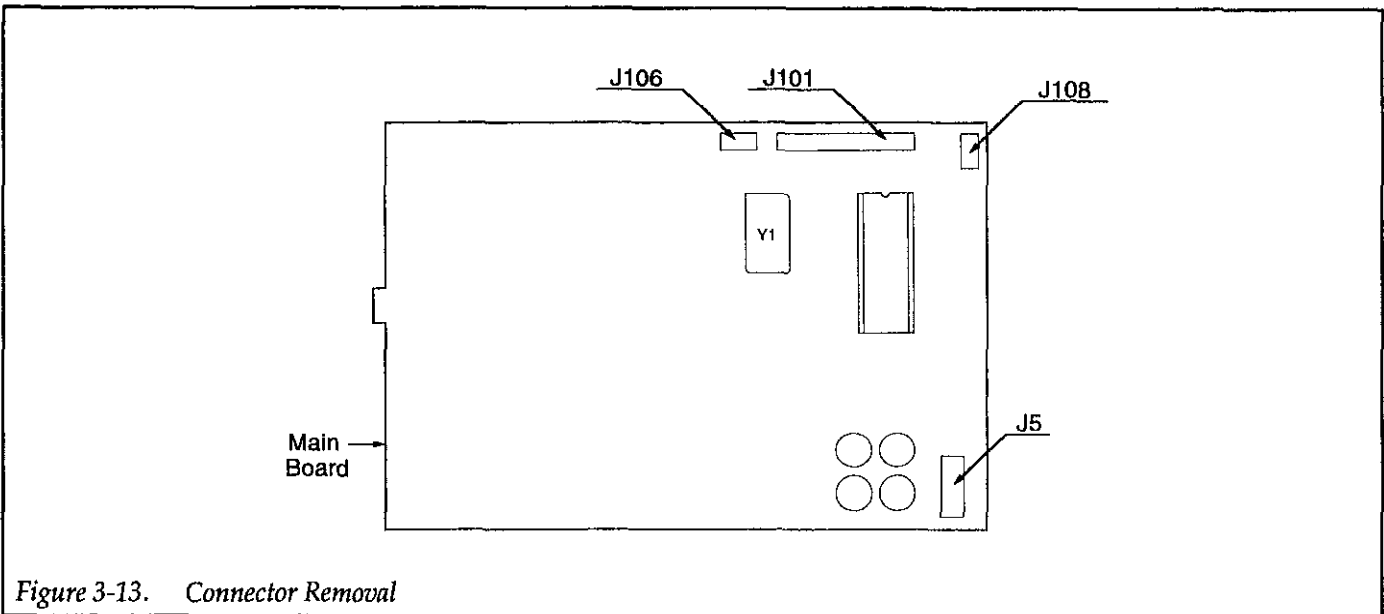

Figure 3-13. Connector Removal
2. Disconnect the connectors J101, J106, J108, and J5 from the main board (see Figure 3-13).